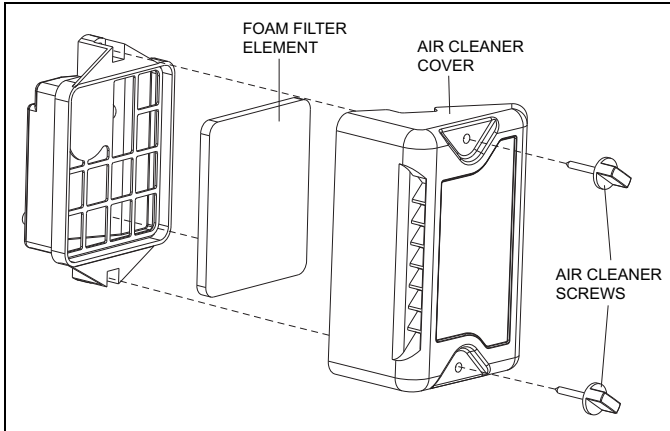
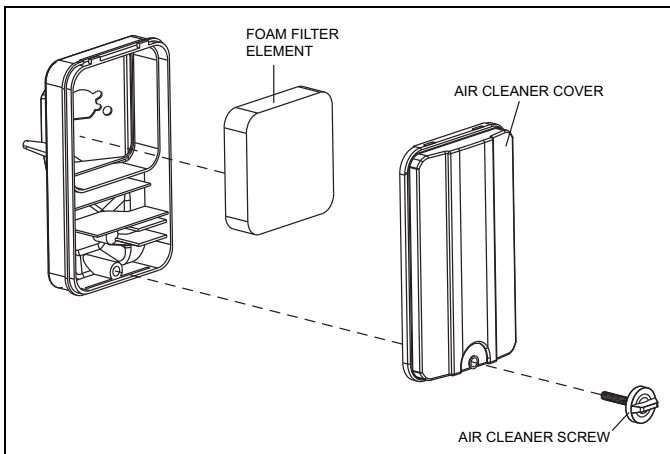

Figure 6-5. Service the CW15 Air Cleaner
Figure 6-6. Service the ST20 Air Cleaner
1. Remove air cleaner screw(s), and pull off the air cleaner cover (Figure 6-5) and (Figure 6-6).